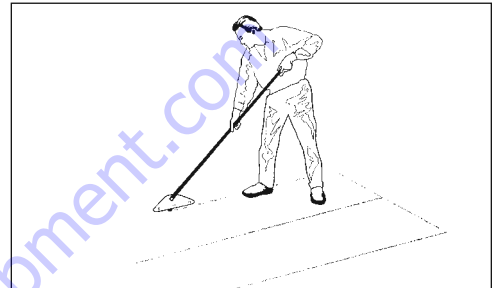

FIG. 9
- Sheet vinyl, solid vinyl, rubber tile, urethane, or PVC sheet roofing will need to be scored for best removal results (Figure 9). Score flooring to the width of the blade.